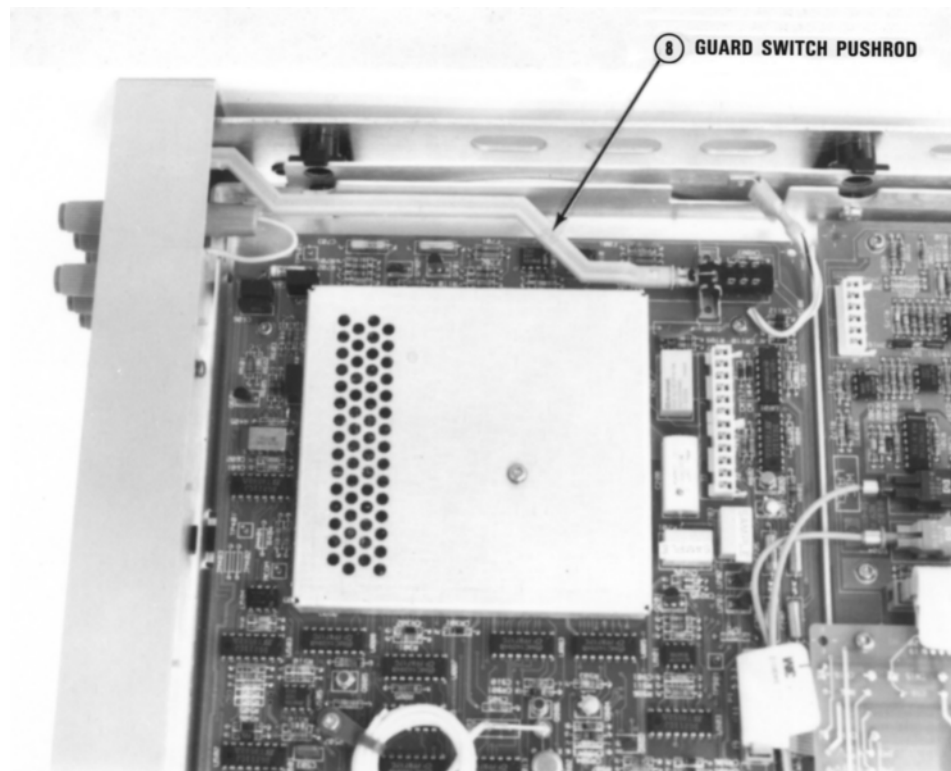

Figure 40. Guard switch and pushrod location
2. Refer to Figure 40, Locate the pushrod for the Guard switch. Pull the pushrod off. You may need to pry the pushrod loose with a small flat blade screwdriver. Set the switch in the position it is to be used.